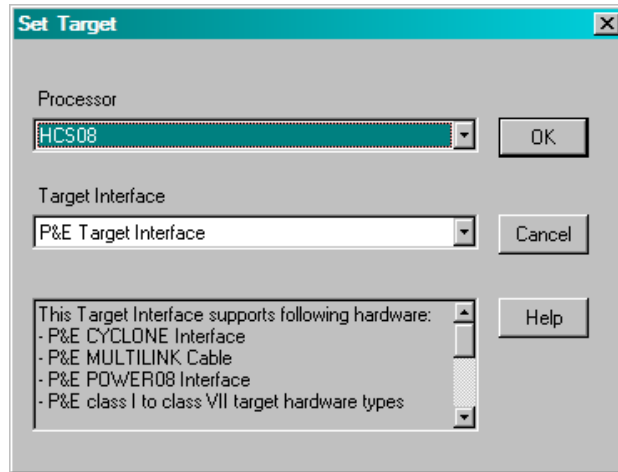

Figure 3-10. Set Target Window
2. From the main window, setup the target by selecting the Component menu, then click on Set Target. The Set Target window appears as shown in Figure 3-10. In the Processor drop down menu, select HCS08. From the Target Interface drop down menu, select P&E Target Interface, then click the OK button.